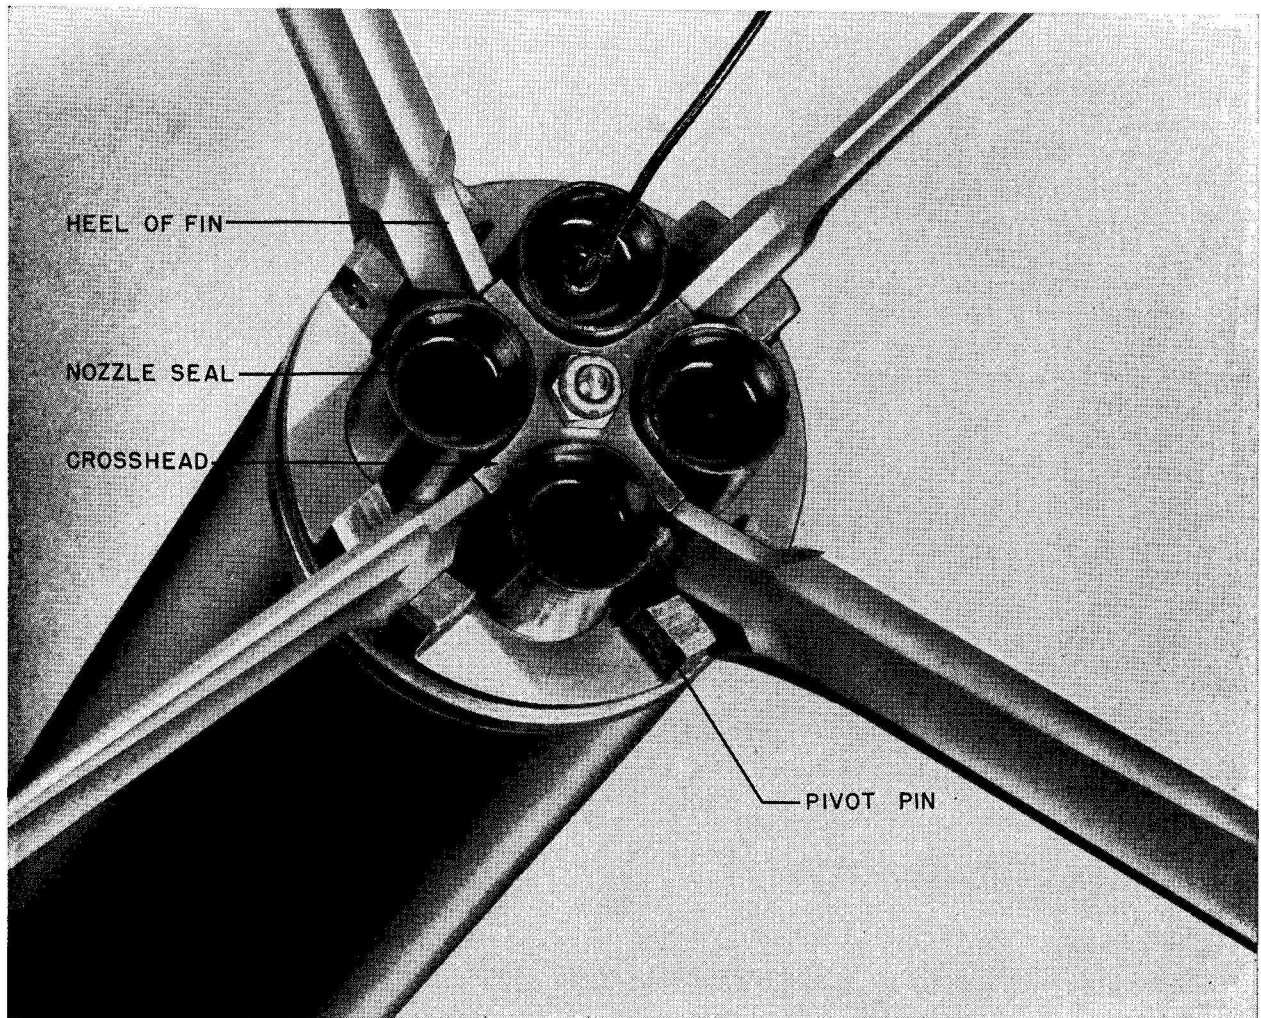

Figure 5—After View of Fins, Showing Crosshead.
**FIN ACTUATING MECHANISM.** The fin-actuating mechanism consists of a steel cylinder and a piston with a crosshead attached to its after end, figures 5 and 6. Gas pressure from the motor operates the piston and crosshead, pushing the crosshead against the heels of the fins and thereby causing the fins to open.